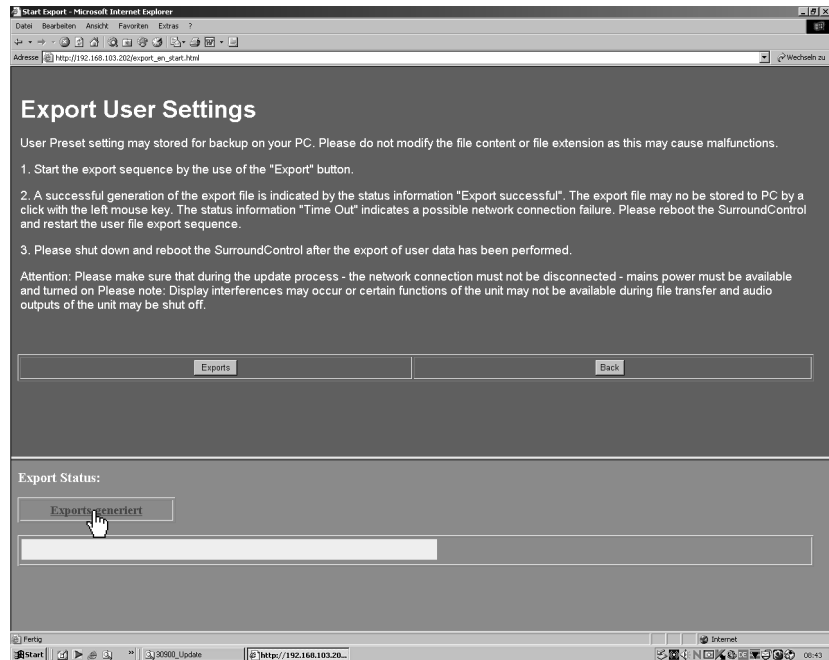

Fig. 5-5: The export file has been generated and can be saved
5. When the Export Status turns to the blue labelled „Export generiert“ (see Fig. 5-5) the export file can be saved. Please click „Export generiert“